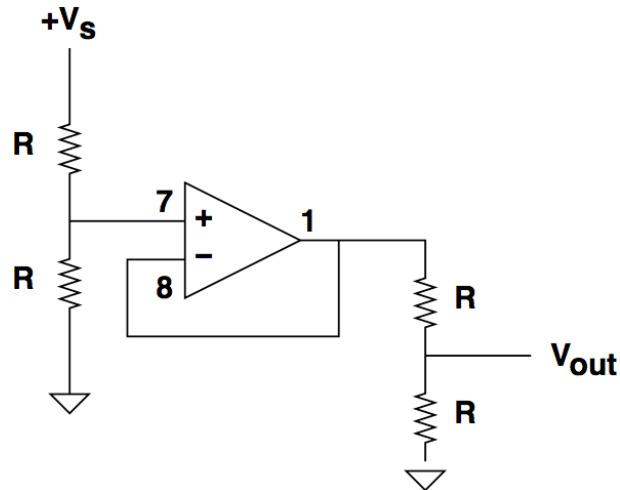

Figure 4: Buffered voltage dividers. The numbers 1, 7 and 8 are the pins on the op-amp chip we used in lab.  $V_s$  is the voltage source voltage.
**Question 9:** Model the circuit in figure 4 (from design lab 7) and solve. Use a `Wire` entry for the feedback connection. Use  $V_s = 12V$  and  $R = 4,700$ , as you did last week.